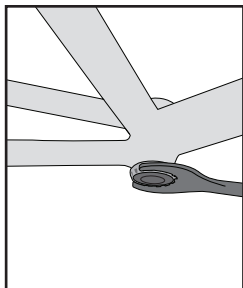

Figure 4 Tighten the right cup
3. Tighten the right cup to 430 lb•in (17-19 N•m) (Figure 4).